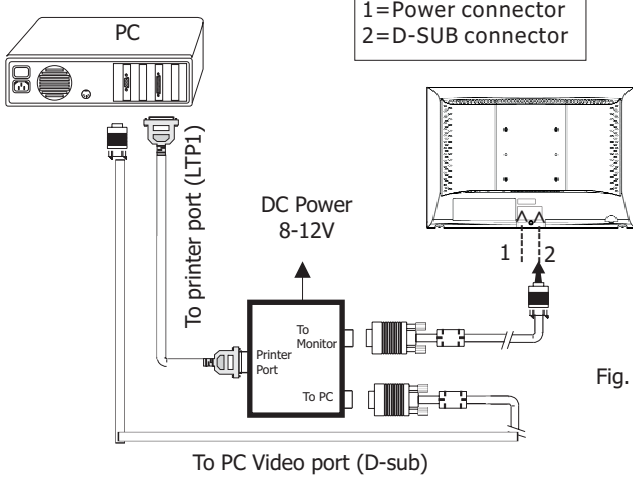

Fig. 10
**Step 1: After initialize alignment box, connecting all cables and box as shown in Fig. 10.**